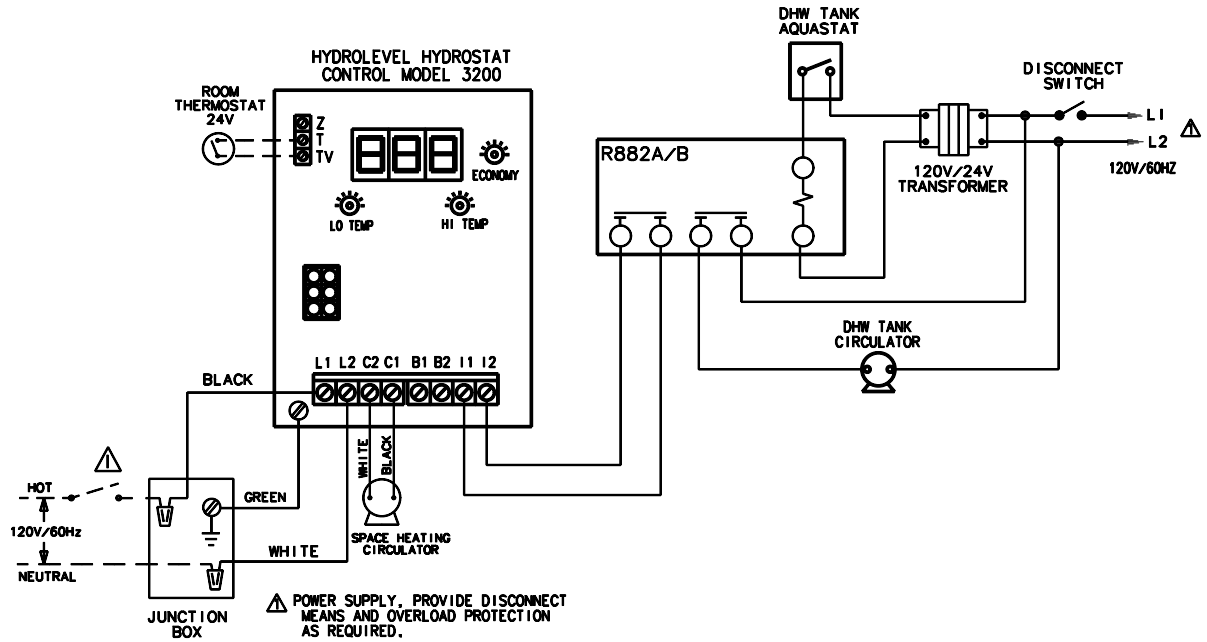

Figure 9. Single zone with indirect water heater (DHW Priority) using R882A/B relay.
**Note: For single heating zone with external indirect water heaters, see figure 9.**